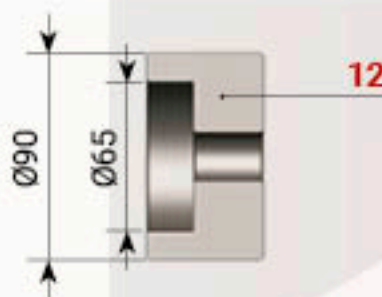

fig. 2
Remove the rubber bush (5) from the tube (10). Clean the tube (10) and the clamps (6.1) with emery cloth and wipe them. Immerse the rubber bush in lubricant and mount it on the tube (10) using a fitting cone (11) and a forcing-in cup (12) (fig. 2).